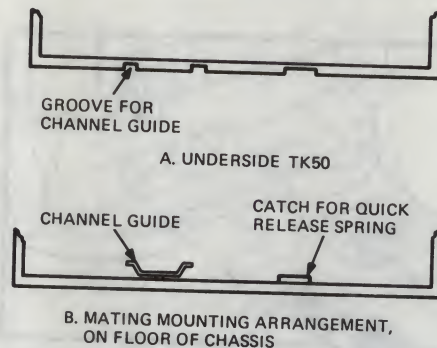

Figure 4-5 TK50-D, -R Subsystem Groove and Channel Guide
1. Align the groove on the bottom of the tape drive with the channel guide on the floor of the chassis (Figure 4-5).